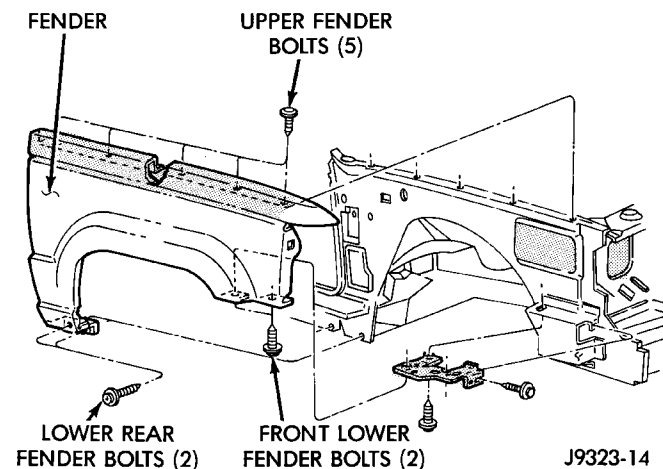

Fig. 12 Fender Mounting
- (8) Remove bolts at front fender bracket (Fig. 12).
- (9) Remove bolts at lower rear of fender at A-pillar.
- (10) Remove upper mounting bolts at top of fender.
- (11) Remove fender from inner fender.